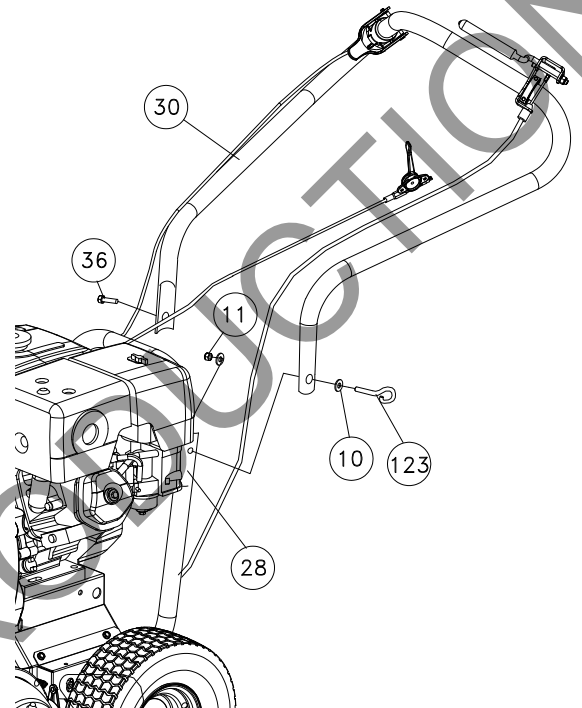

Fig. 1
1. The hardware for attaching the upper handle to the lower is in the parts bag. Install the upper handle (item 30), to preassembled lower handle (item 28) by sliding the upper handle over and down the outside of the lower handle. Using the bolts (items #36 and #123), washers (item #10) & lock nut (item #11) to install upper handle to lower handle. **NOTE:** The Pigtail bolt should go on the side that the pull start is on and the open end should be facing down. Finish installing the other side of the upper handle assembly using screw and lock nut provided. (See Fig. 1)